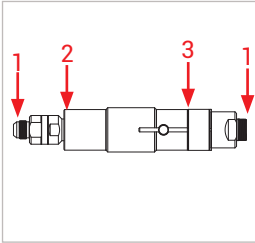
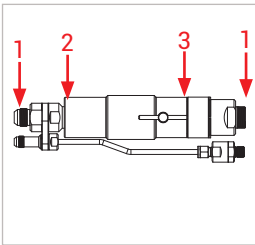

Figure 7
Figure 8
▶ Check the following measuring points (*Figure 7* and *Figure 8*)
- Fittings (1)
- Area of the clamping jaws (2)
- Area of the eccentric actuator (3)